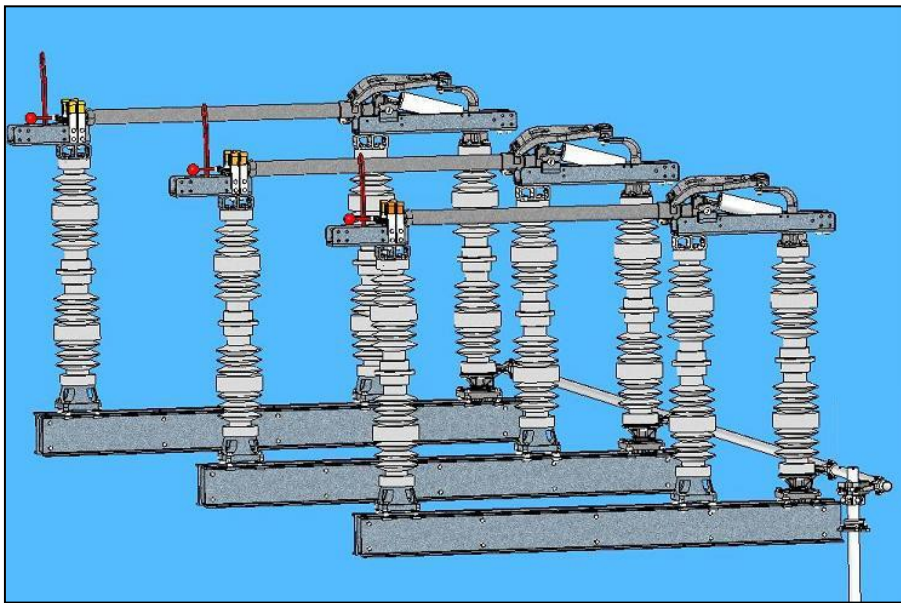
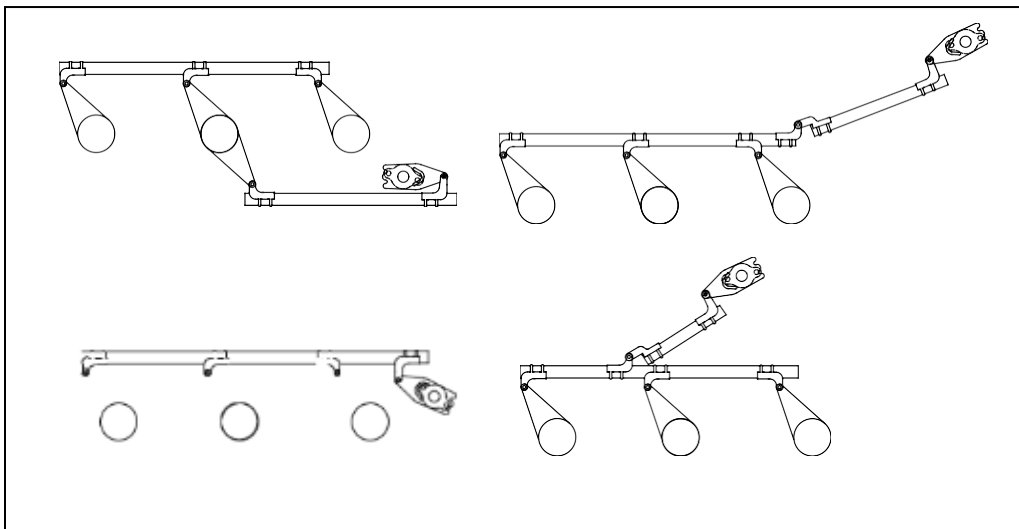

Figure 13: Typical Operating Mechanism for EV-2
Figure 14: Alternate Operating Mechanism Designs
- 5.2. **Figure 13** shows a typical operating mechanism for a 121kV vertical break switch. **Figure 14** shows alternate operating mechanism designs, each of which is employed as being the simplest arrangement for a given structure. In all cases, however, the operating principle remains the same, and the methods of installation and adjustment are virtually identical.